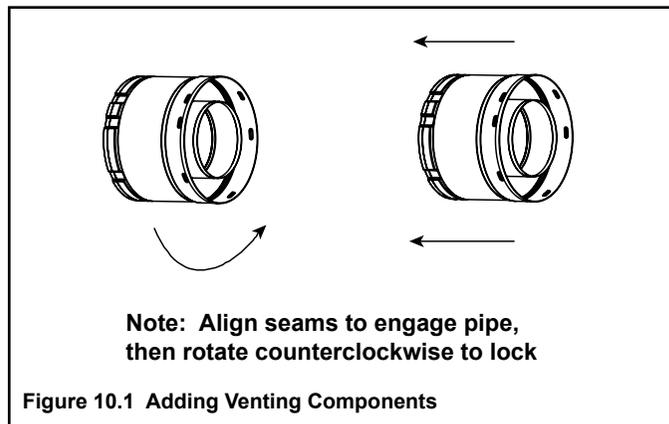

Figure 10.2 High Temperature Silicone Sealant (150 °C minimum continuous exposure rating)
- Apply a bead of silicone sealant inside the female outer pipe joint prior to joining sections. See Figure 10.2